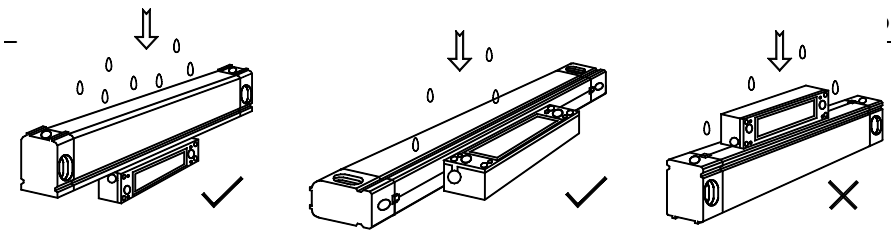

Fig. 14
- e. The ruler shall be installed vertically or horizontally as shown in Fig. 14. Never install it upside down (with the reading head over the ruler assembly). The sealing rubber of the ruler assembly must be kept away from the cooling oil nozzle of the machine.